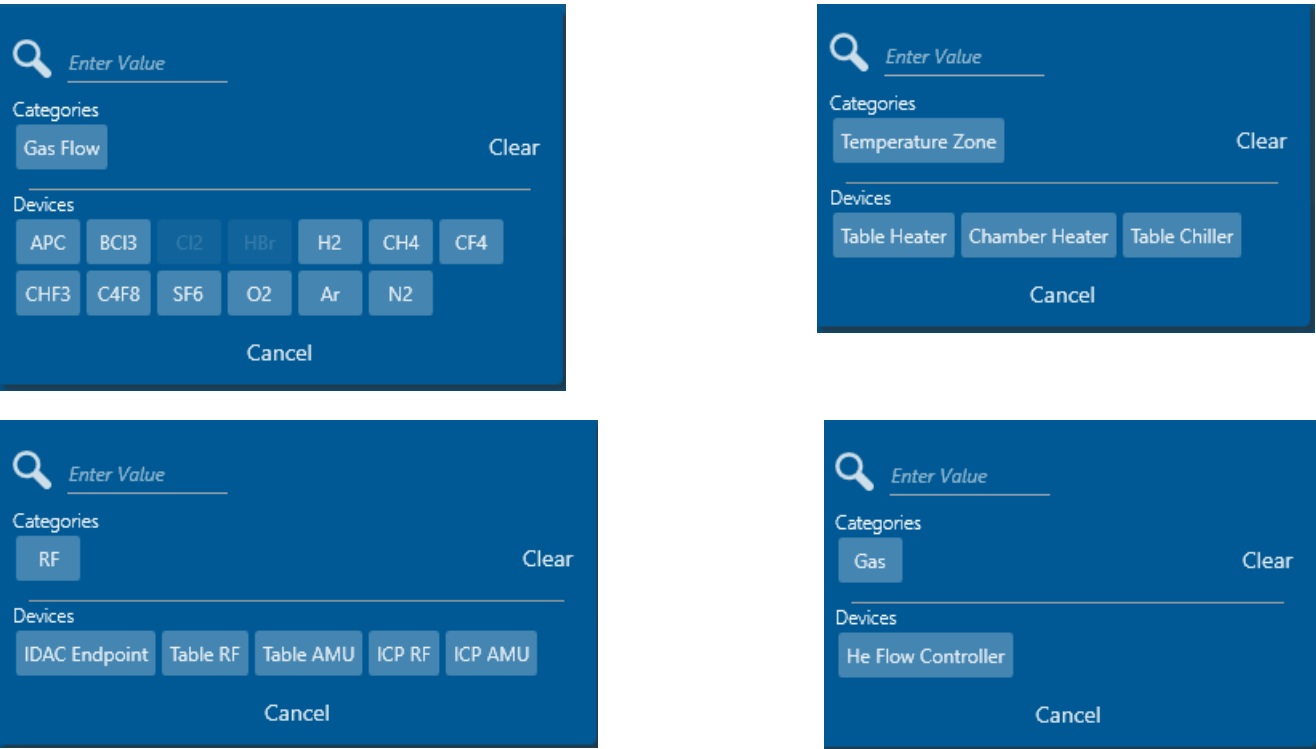

Figure 5-18 Categories menus
- 11 Choose a Device from the menu or choose a different category - Gas Flow, Temperature Zone, Gas and RF each have their own menus (see Figure 5-18).